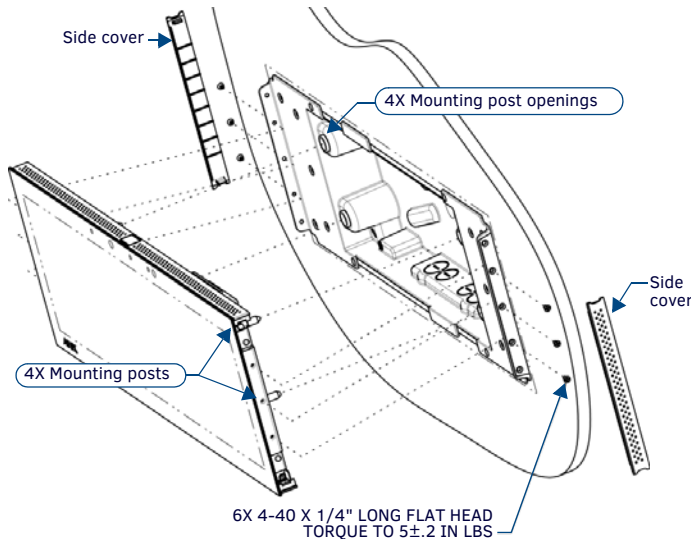

FIG. 5 MXD-1900L-PAN INSTALLATION (LANDSCAPE)
- Insert the four temporary mounting posts of the panel into the openings on the Backbox and slide the panel onto the Backbox. This will temporarily hold the panel during the rest of the installation (FIG. 5).
- Use the six provided screws, three at each end, to secure the touch panel to the Backbox (FIG. 5). Use only the provided screws, as other screws may damage the touch panel.